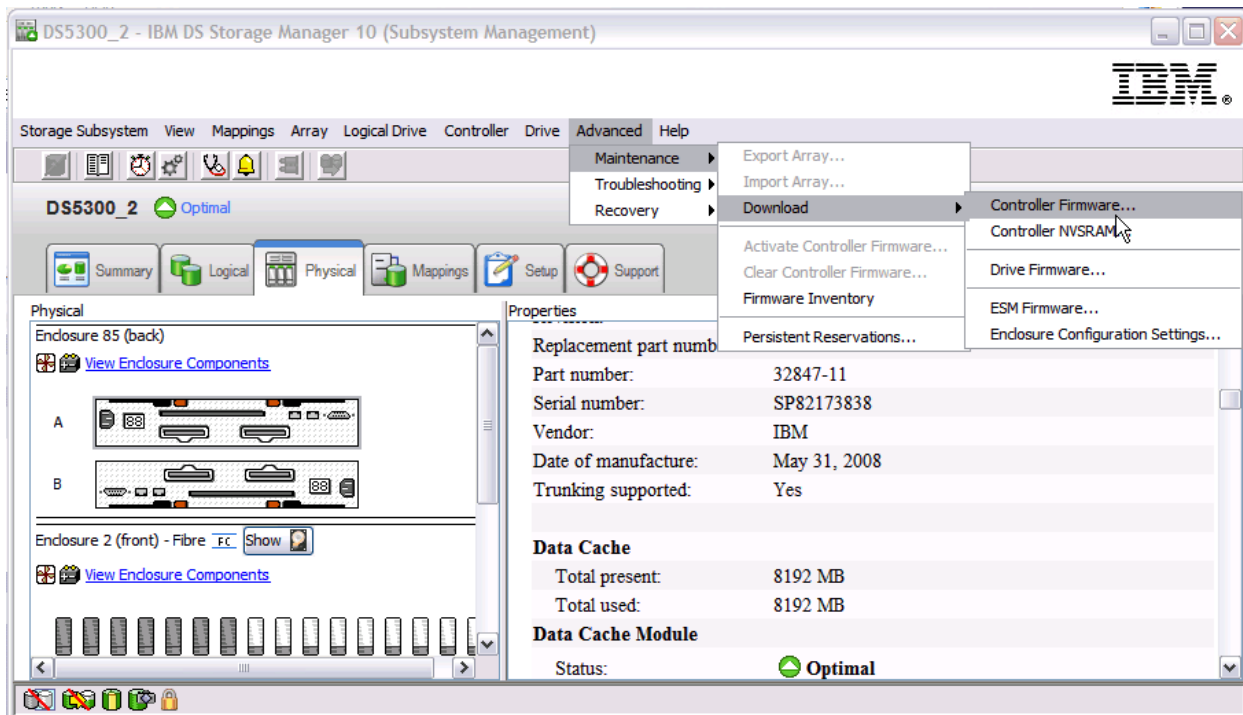

Figure 5-5 Subsystem Management window: Controller Firmware upgrade
1. Open the Subsystem Management window for the DS5000 storage subsystem that you want to upgrade. To download the firmware, select **Advanced** → **Maintenance** → **Download** → **Controller Firmware**, as shown in Figure 5-5.